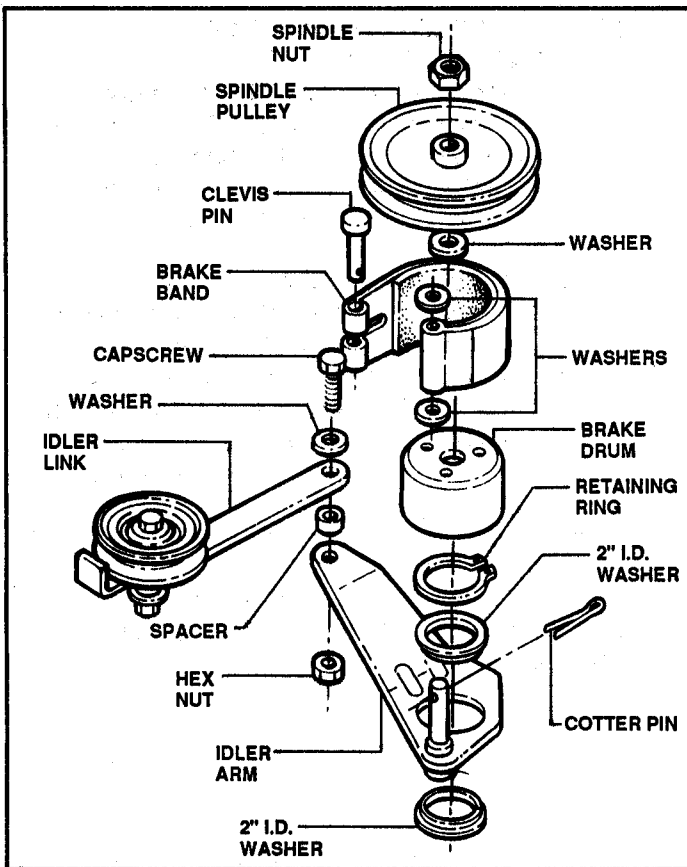

FIGURE 3.20
3. Disconnect link from idler arm by removing nut, screw, spacer and washer. See Figure 3.20.